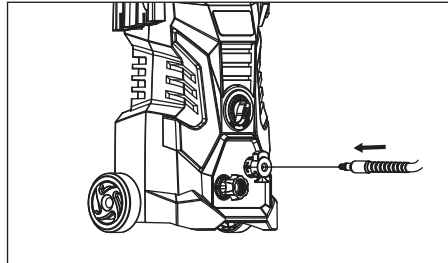

Figure 3 - Attach high pressure hose to high pressure outlet
1. Attach high pressure hose to high pressure outlet (see Figure 3).
5. Press easy connect button while inserting quick connect fitting (see Figures 3, 4, 6 and 7).